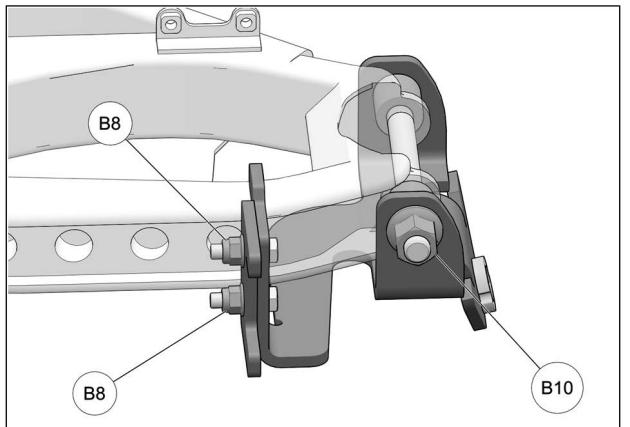

Fig. 14
15. Tighten M14 nut (B10) to 95 Nm [70 lb•ft] of torque and then M8 nuts (B8) to 25 Nm [18 lb•ft]. Fig. 14